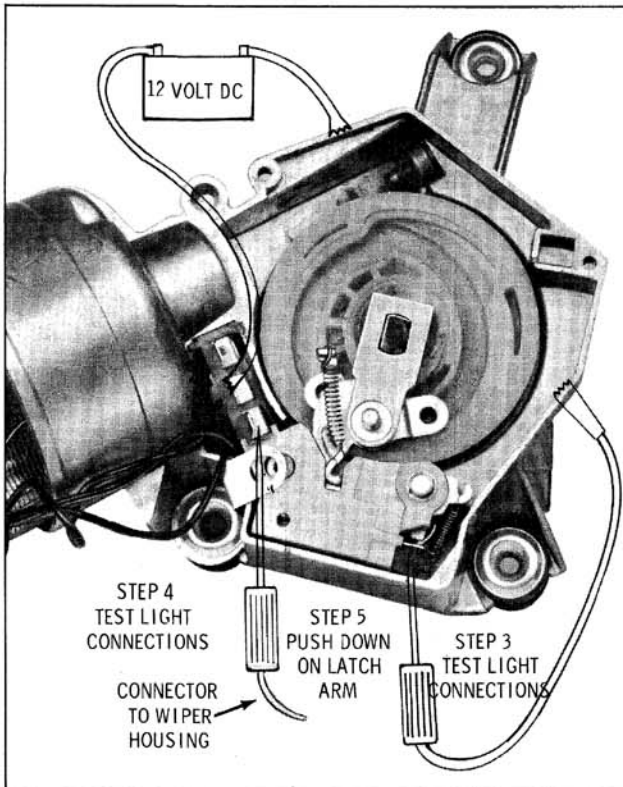

Fig. 13-179 Checking Connections
2. Connect 12-volt power source to wiper, hot side to center terminal, ground side to gear housing. (Fig. 13-179) Do not connect jumper to terminal 1 and 3.
3. To determine if wiper circuit breaker is okay, connect test light to relay switch terminal as shown in Fig. 13-179.
4. To determine if relay coil is open, connect test lamp to wiper terminal No. 1. (Fig. 13-179)
If gear mechanism is in full park position (Fig. 13-179), use a small screwdriver in the switch slot and push latch arm down toward relay coil. (Fig. 13-179) Next, remove a small amount of insulation from black lead with pink tracer and touch test lamp to exposed wire.
2. If wiper gear drive pawl is in full park position (Fig. 13-179), remove gear assembly. (See GEAR ASSEMBLY - Removal)